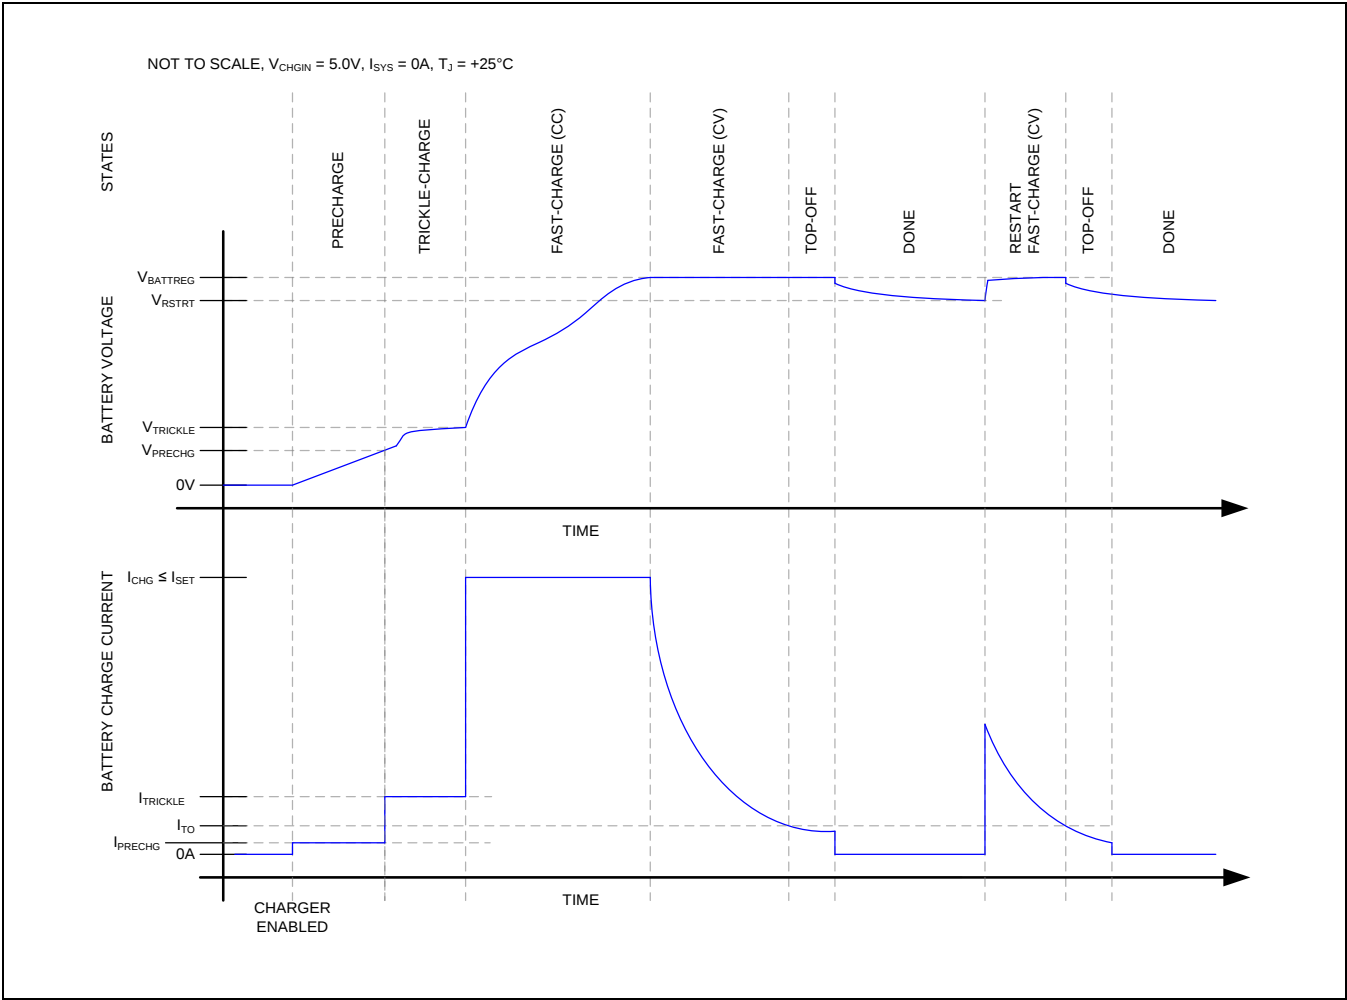
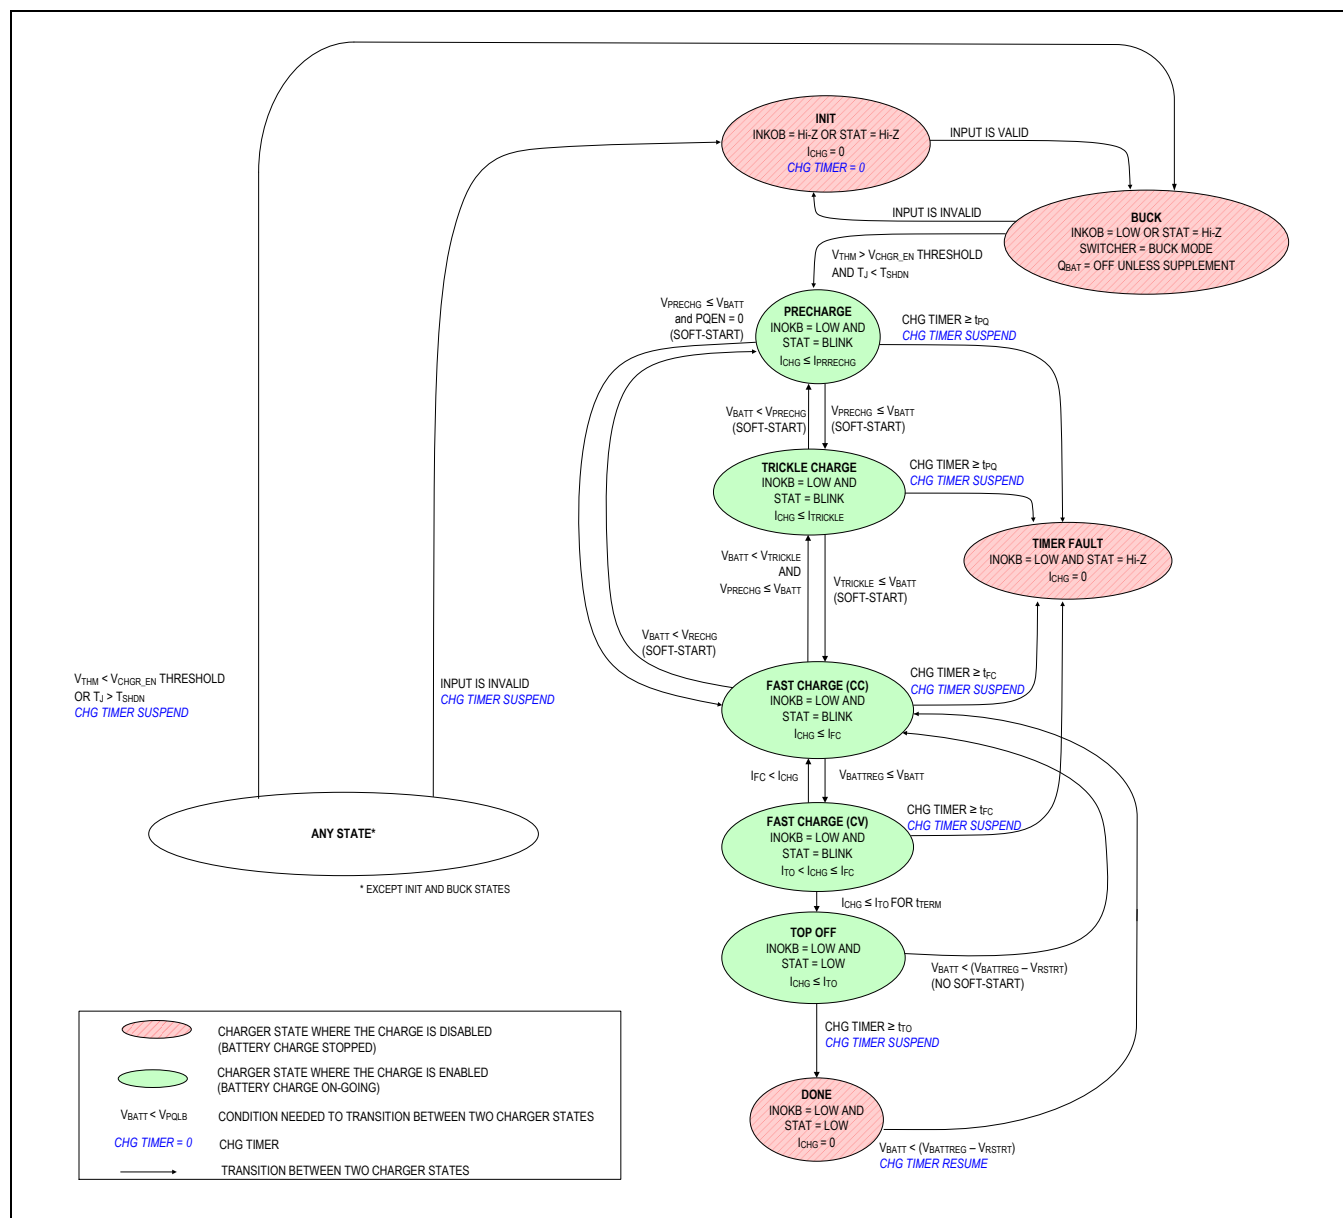

Figure 5. Li+/Li-Poly Charge Profile
Figure 6. Li+/Li-Poly Charger State Diagram
The MAX77757 utilizes several charging states to safely and quickly charge Li+/Li-Poly batteries as shown in Figure 5 and Figure 6. Figure 5 shows an exaggerated view of the Li+/Li-Poly battery progressing through the following charge states when there is no system load and the die and battery are close to room temperature: precharge → trickle → fast-charge → top-off → done.
In the buck state, battery charging is disabled while the charger input CHGIN is valid. Entering or leaving the buck state is controlled by the voltage of the THM pin. If the voltage of this pin is pulled down by an external device (e.g., MCU) under V_{CHGR_EN} , the chip goes to the buck state from any state if CHGIN is valid as shown in Figure 6. Charging is disabled in the buck state, which means Q_{BAT} is off unless it is in supplement mode. If the voltage of this pin is over V_{CHGR_EN} , the chip leaves the buck state and resumes charging. It should be noted that it is only when CHGIN is valid that charging can be enabled or disabled. Therefore, the external device (e.g., MCU) should check the INOKB signal if CHGIN is valid before trying to enable or disable charging.
As shown in Figure 6, the precharge state occurs when the main battery voltage is less than V_{PRECHG} . In the precharge state, charge current into the battery is I_{PRECHG} .
The trickle charge state occurs when $V_{BATT} > V_{PRECHG}$ and $V_{BATT} < V_{TRICKLE}$, as shown in Figure 6.
As shown in Figure 6, the fast-charge constant current (CC) state occurs when the main-battery voltage is greater than the trickle threshold and less than the battery regulation threshold ($V_{TRICKLE} < V_{BATT} < V_{BATTREG}$).
As shown in Figure 6, the fast-charge constant voltage (CV) state occurs when the battery voltage rises to $V_{BATTREG}$ from the fast-charge CC state.
In the fast-charge CV state, the battery charger maintains $V_{BATTREG}$ across the battery and the charge current is less than or equal to I_{FC} . As shown in Figure 5, charger current decreases exponentially in this state as the battery becomes fully charged.
As shown in Figure 6, the top-off state can only be entered from the fast-charge CV state when the charger current decreases below I_{TO} for t_{TERM} . In the top-off state, the battery charger tries to maintain $V_{BATTREG}$ across the battery and typically the charge current is less than or equal to I_{TO} .
As shown in Figure 6, the battery charger enters the done state after the charger has been in the top-off state for t_{TO} .
The battery charger provides a charge timer to ensure safe charging. As shown in Figure 6, the charge timer prevents the battery from charging indefinitely. The time that the charger is allowed to remain in each of the prequalification states is t_{PQ} . The time that the charger is allowed to remain in the fast-charge CC and CV states is t_{FC} . Finally, the time that the charger is in the top-off state is t_{TO} . Upon entering the timer fault state, STAT becomes Hi-Z.
In the timer fault state, the charger is off. The charger input can be removed and re-inserted to exit the timer fault state (See the “any state” bubble in the lower left of Figure 6).
As shown in Figure 6, the thermal shutdown state occurs when the battery charger is in any state and the junction temperature (T_J) exceeds the device’s thermal-shutdown threshold (T_{SHDN}). When T_J is close to REG, the charger folds back the input current limit to 0A so that the charger and inputs are effectively off.